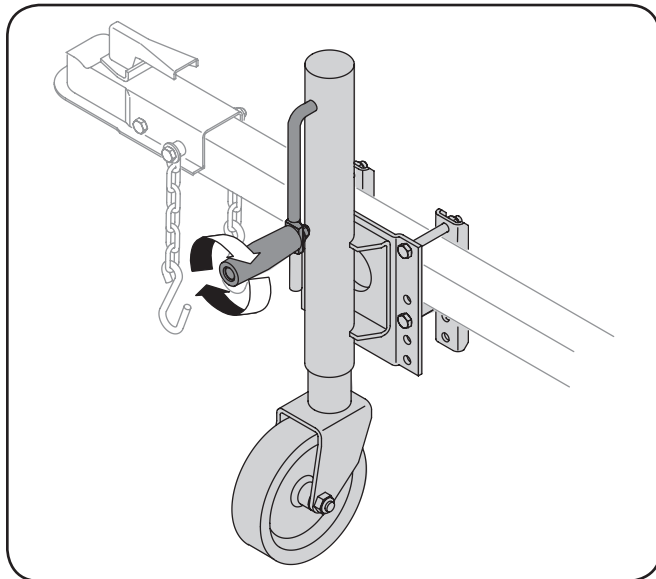

Figure 5-5
2. Raise the adjustable jack stand by turning the crank clockwise. See Fig. 5-5.